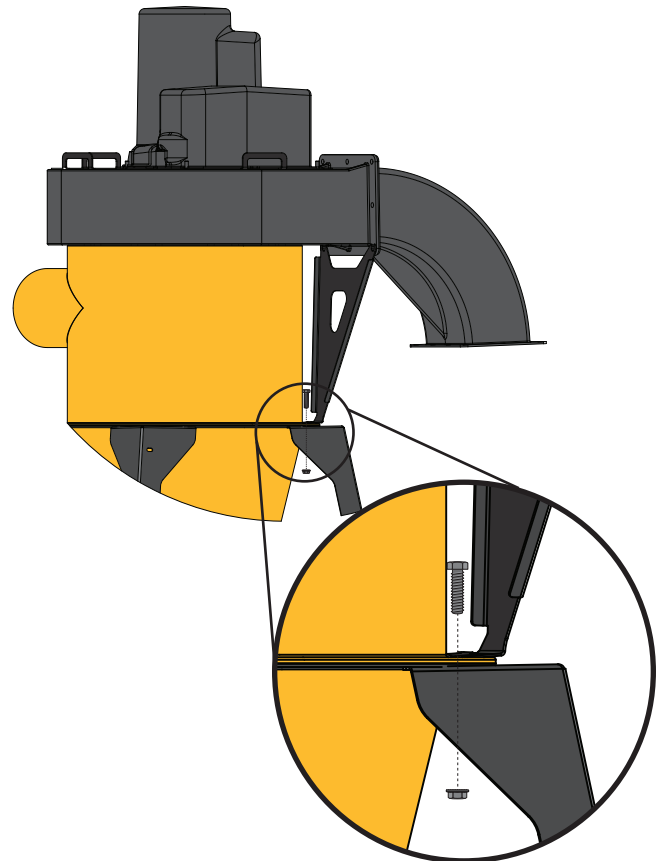

FIG. 10
Install other end of the Support Brace (L) to the flange of the Barrel (C) using the hardware installed in Step 4 [FIG. 10].